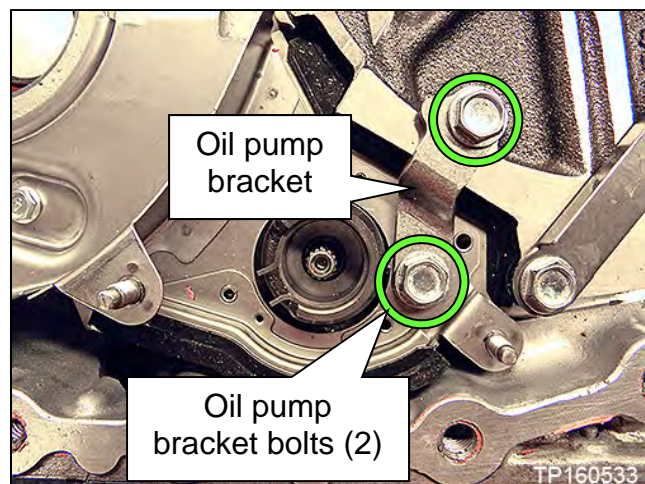

Figure 44
26. Remove the two (2) oil pump bracket bolts, and then remove the oil pump bracket (Figure 44).